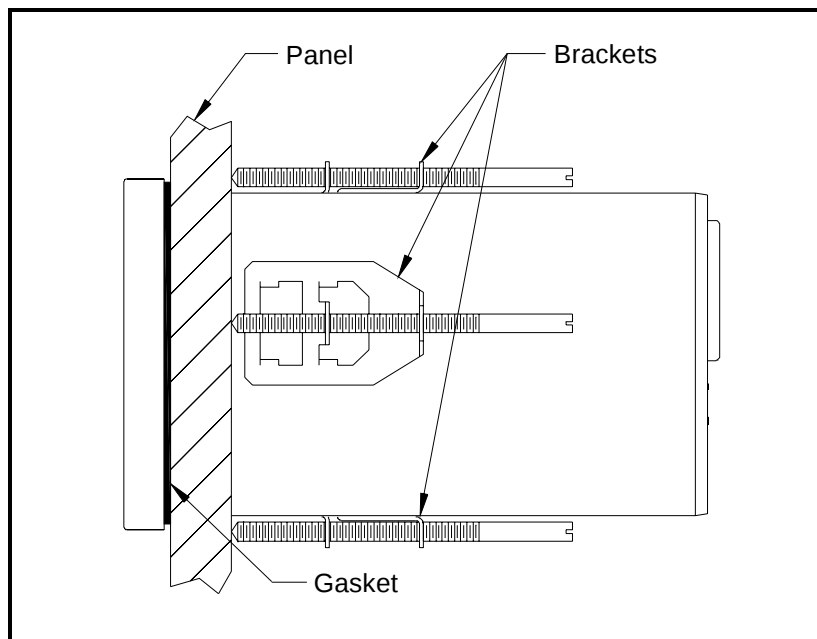

Figure 2-1: Mounting the Meter in a Panel
IMPORTANT: *For NEMA-4 and IP66 installation, you must mount the unit into a rigid, flat panel using the panel gasket provided and all four mounting brackets (see Figure 2-1 below).*
1. Remove the four clip-on mounting brackets from the meter (see Figure 2-1 on page 2-1).